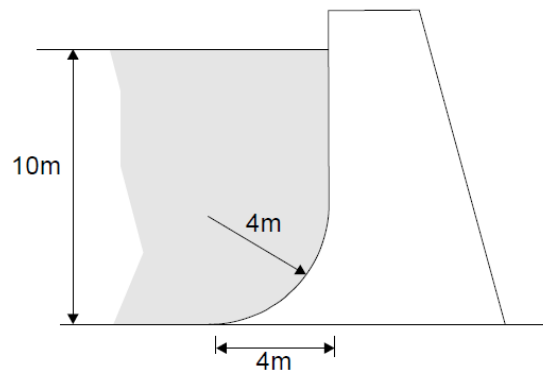

Figure 8: Concrete dam / Rajah 8: Empangan konkrit
- [c] A concrete dam of width 15 m has the cross-sectional profile composed of a vertical face with a circular curved section at the base as shown in Figure 8. Calculate the resultant force and its direction of application on this dam design.